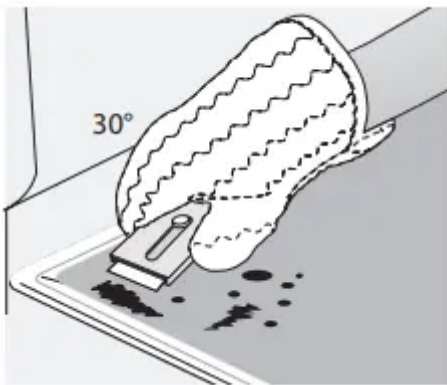

Figure 3: Cooktop cleaning
Where local codes permit connecting the appliance-grounding conductor to the neutral (white) wire (see figure 3):
2. In the circuit breaker, fuse box or junction box, connect appliance and power supply cable wires as shown in figure 3.